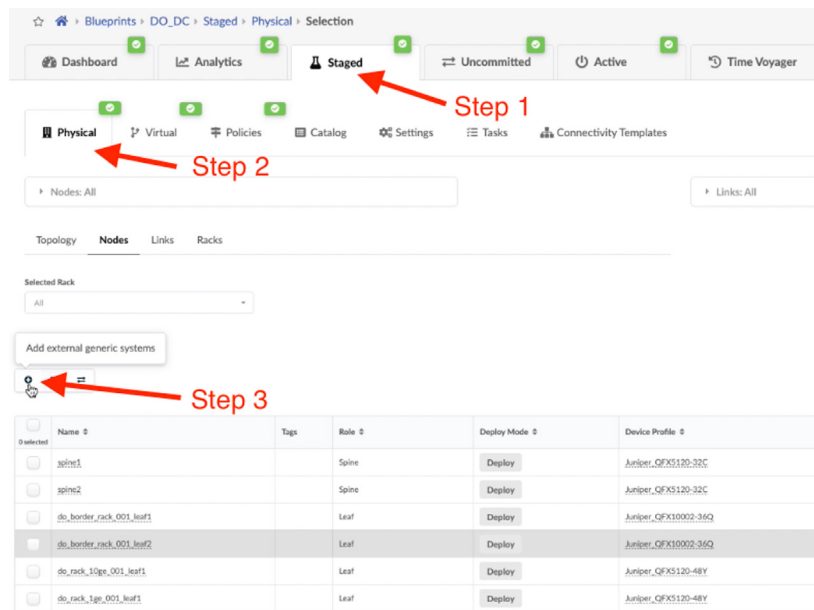

Figure 6.4 Add External Generic System
Step 1: Click the Staged tab in the blueprint view. See Figure 6.4.